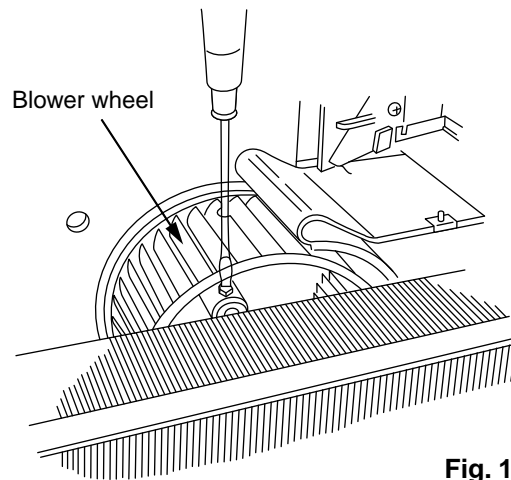

Fig. 11
(2) Loosen the bolt holding the blower wheel on the motor shaft. (Fig. 11)